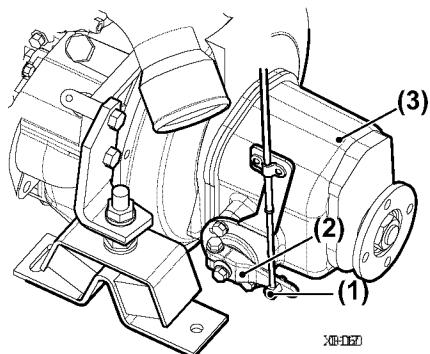
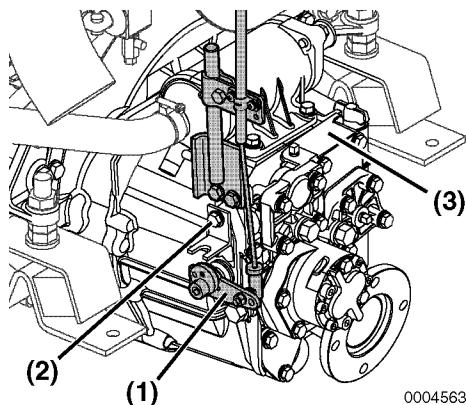

Figure 7
Figure 8
- Ensure that the remote control lever (**Figure 7, (2)**) or (**Figure 8, (1)**) moves to the correct position when the remote control handle is in the NEUTRAL, FORWARD and REVERSE positions. Use the NEUTRAL position as the standard for adjustment.
- To adjust, loosen and retighten the cable fitting (**Figure 7, (1)**) or (**Figure 8, (2)**).